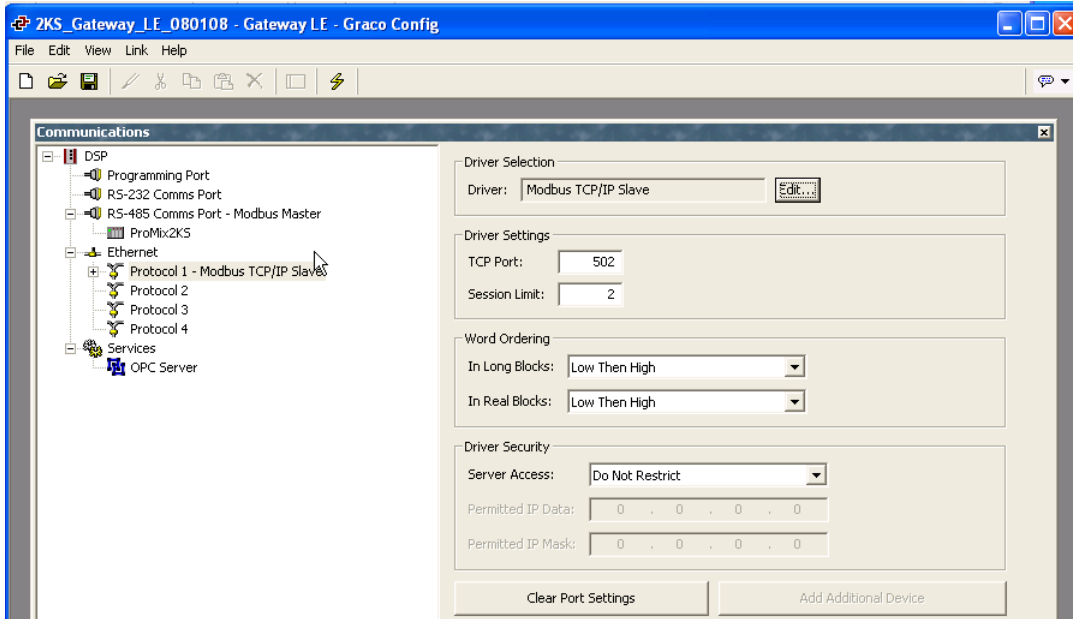

FIG. 18: Preconfigured Database
1. Double-click on the Communications button to open the preconfigured database (.gg2). The file is already setup for ProMix 2KS. See FIG. 18.